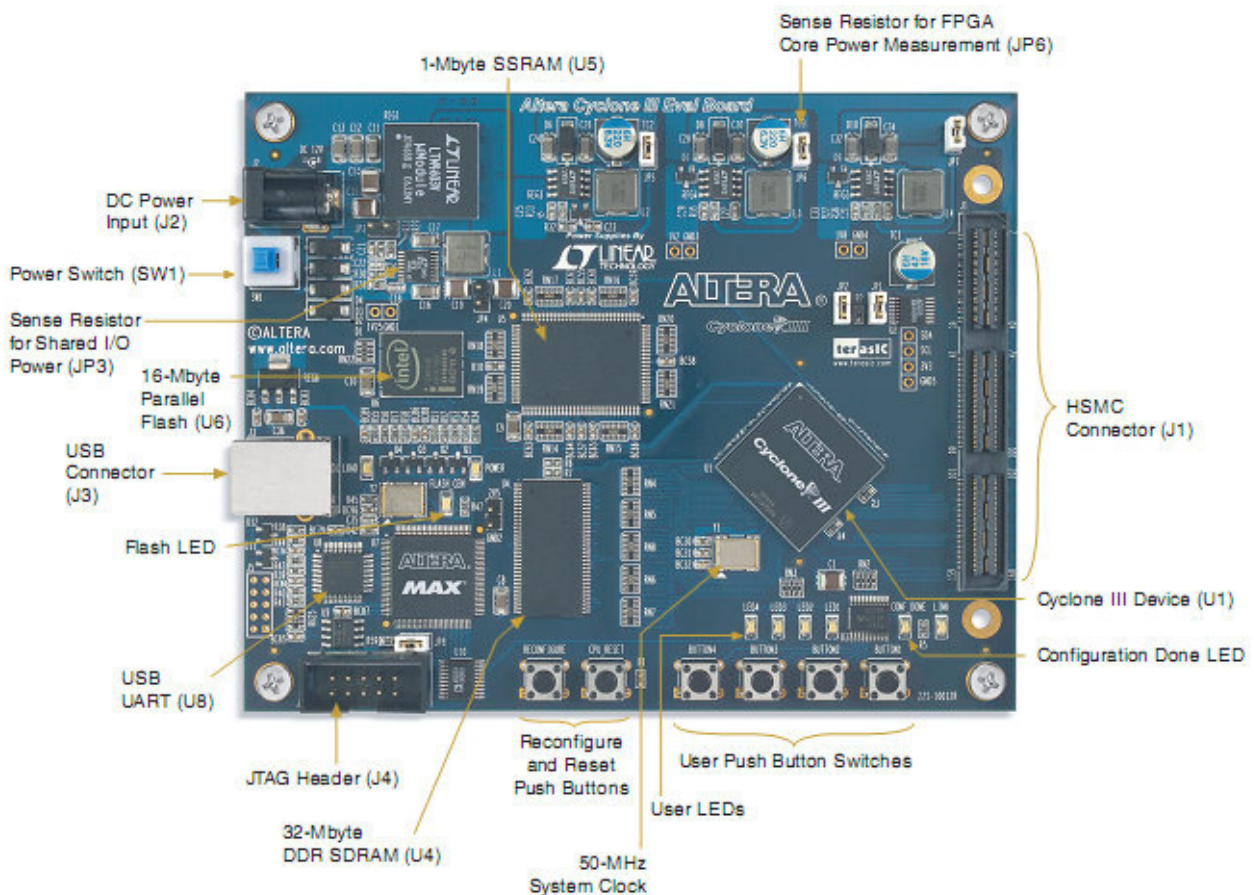

Figure 1 : Altera Cyclone III Starter Board
1. Altera Cyclone III Starter Board (See Figure 1)